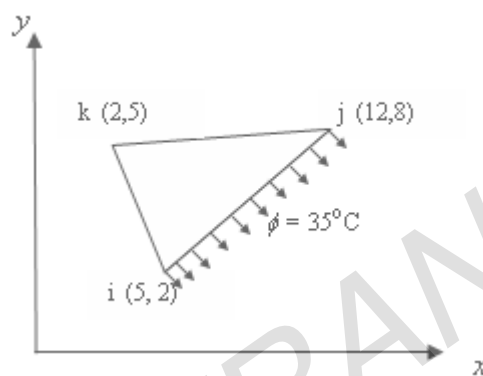

Figure 8:
8. Calculate the conductance matrix $[K^{(e)}]$ and load vector $\{F^{(e)}\}$ for the triangle element shown in figure 8. The thermal conductivities are $k_x = k_y = 4 \text{ W/cm}^\circ\text{C}$ and $h = 0.3 \text{ W/cm}^2^\circ\text{C}$. Thickness of the element is 1cm. All coordinates are given in cms. Convection occurs on the side joining nodes i and j. [16]